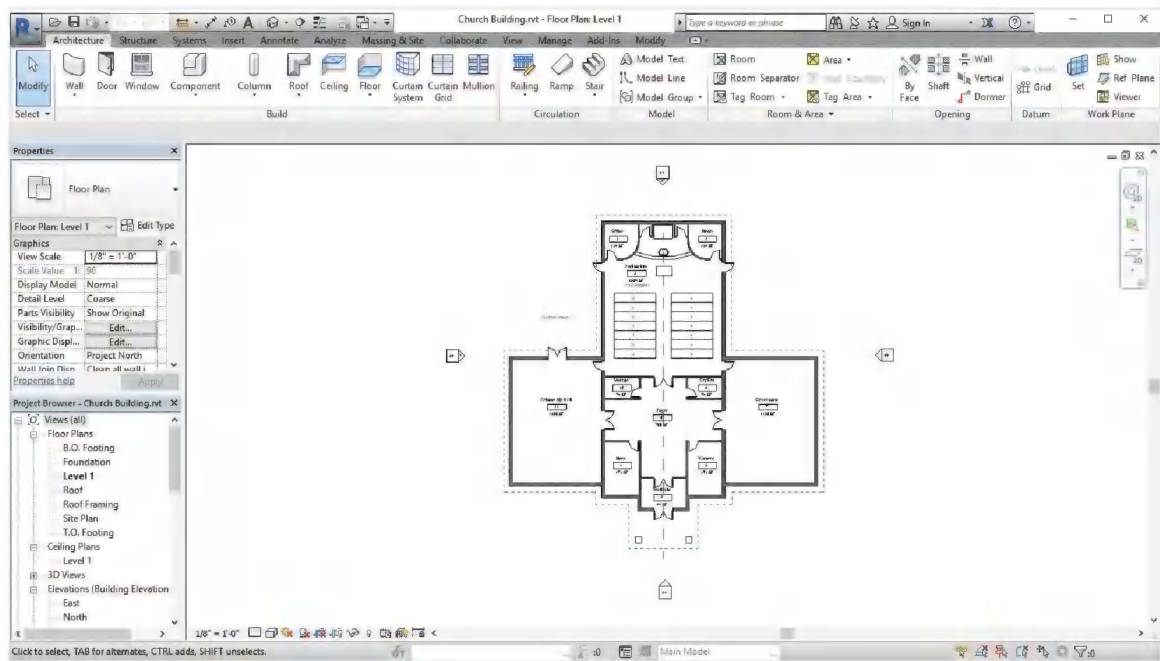

FIGURE 1-3.5 Sample file “Church Building.rvt”
7. Select the file named **Church Building.rvt** and click **Open** (Figure 1-3.5).